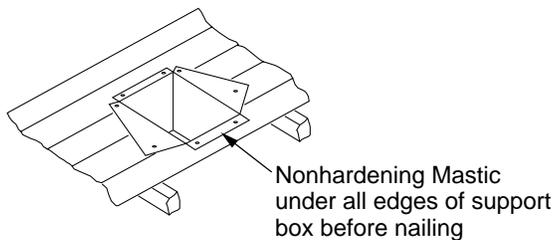

Figure 32 - Installed Cathedral Ceiling Support Box
4. Using tin snips, cut the support box from the top corners down to the roofline and fold the resulting flaps over the roof sheathing (see Figure 32). Apply a bead of non-hardening mastic around the top edges of the support box to make a seal between the box and the roof. Nail in place with roofing nails. Remove any combustible material that might be inside of the support box.